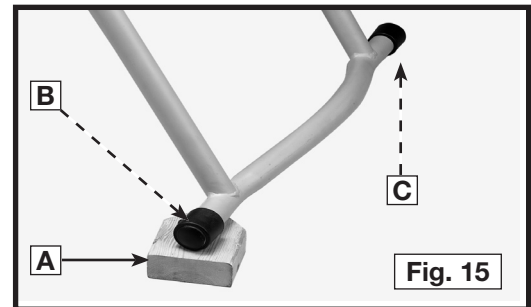

Fig. 15
1. Place a 2-1/2" thick block of wood (A) Fig. 15 under the front leg (B) of the stand so that the front leg is raised 2-1/2" off the floor.
3. Perform this same test with the block of wood under the rear leg (C) Fig. 15.